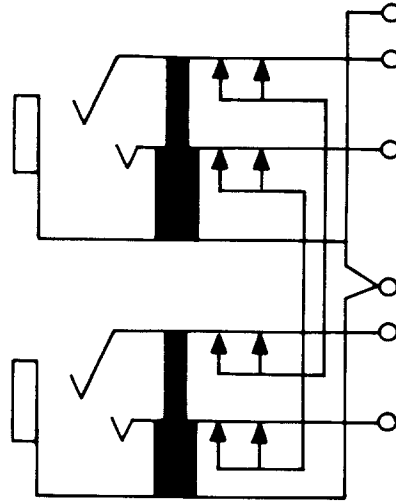

Fig. 13—482B or BM Jack
**2.08 482B and BM:** These single-mounted twin jacks (Fig. 13) have a single frame with two sleeves and are designed to be used with the 338 or similar-type plugs. The contact springs are equipped with No. 2 metal contacts.